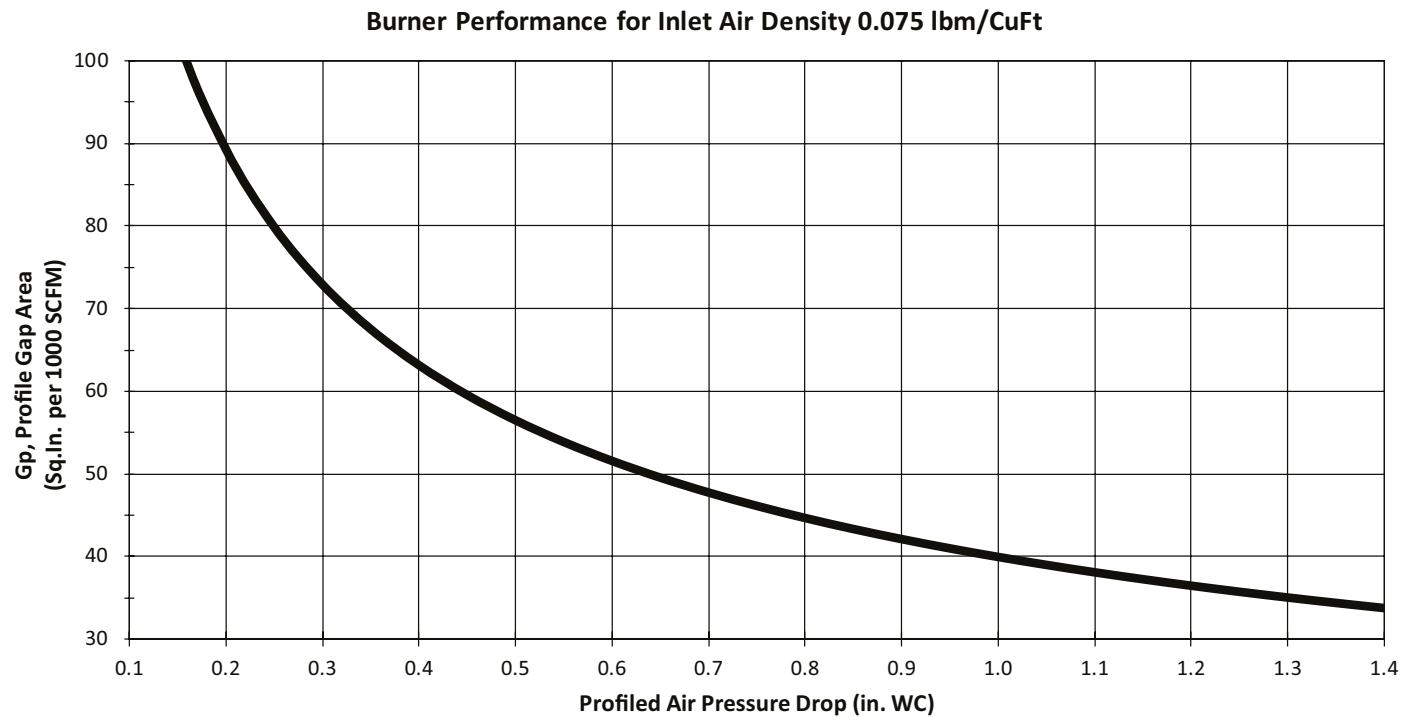

Fig. 7. Profile Gap Area vs. Air Pressure Gap
- $G_p$  = Profile gap area required per flow from Figure 7 (Profile Gap Area vs. Air Pressure Gap); see Table 6 and 7 (Profile Gap Correction Factors) for corrections at other Temperature (Tp) and Elevation (Ep) conditions.
From Figure 7 (Profile Gap Area vs. Air Pressure Gap:  $G_p = 47.7$ ,  $T_p = 1.0$ ,  $E_p = 1.0$ )